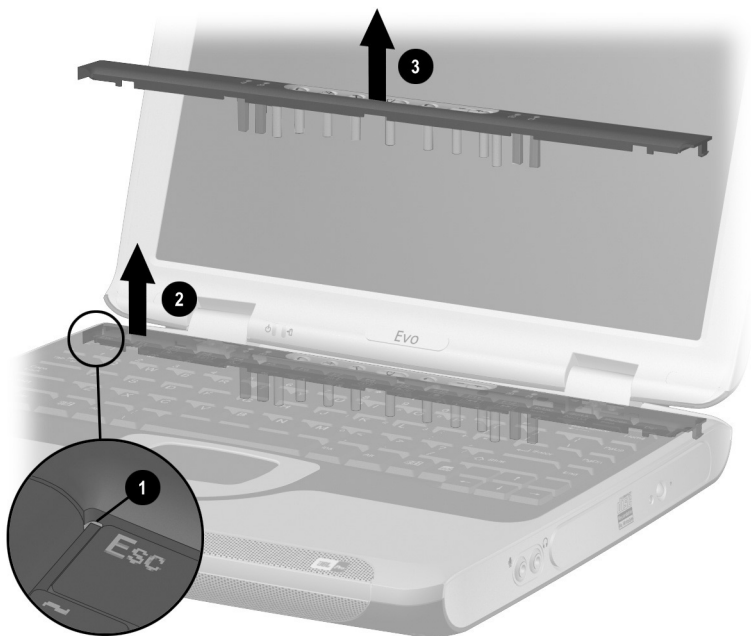

Figure 5-16. Removing the LED Cover
6. Press the **Esc** and **F1** keys to reveal the slot in the LED cover ❶ (Figure 5-16).
7. Insert a flat-bladed tool into the slot in the LED cover and lift the left side of the LED cover up ❷.
8. Lift the LED cover up from left to right ❸.